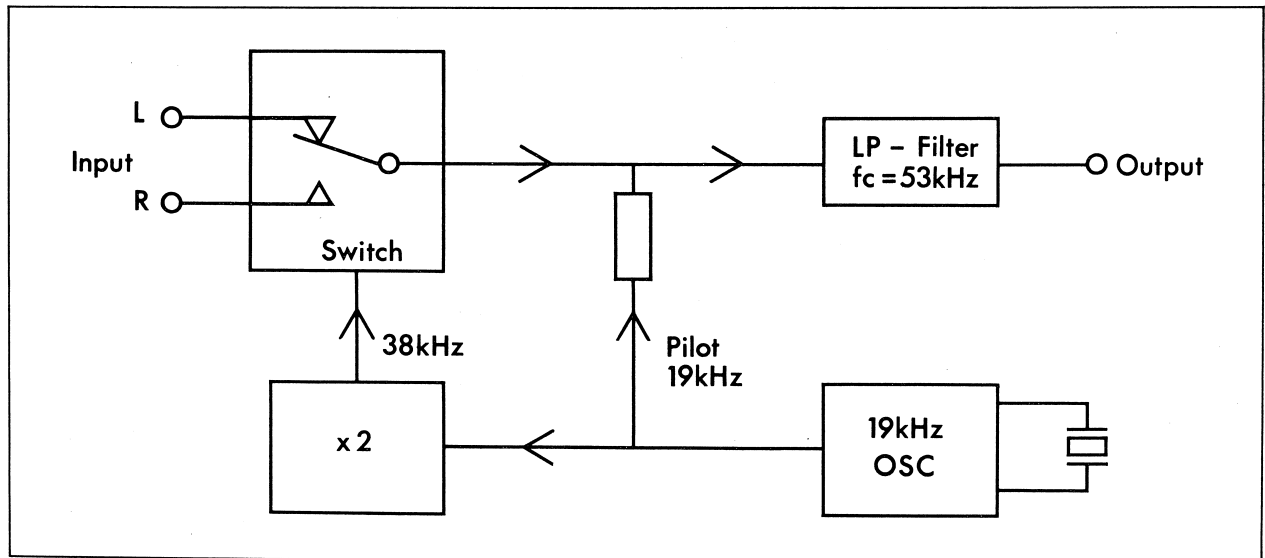

Fig.3. The Time - Multiplex Principle
Fig.3 shows the Time-Multiplex or Time-Division Principle. Here an electronic switch alternates between the left (L) and right (R) signal at a frequency of 38 kHz. The 38 kHz carrier and the 19 kHz pilot signal are formed in the same way as in the Matrix Principle.